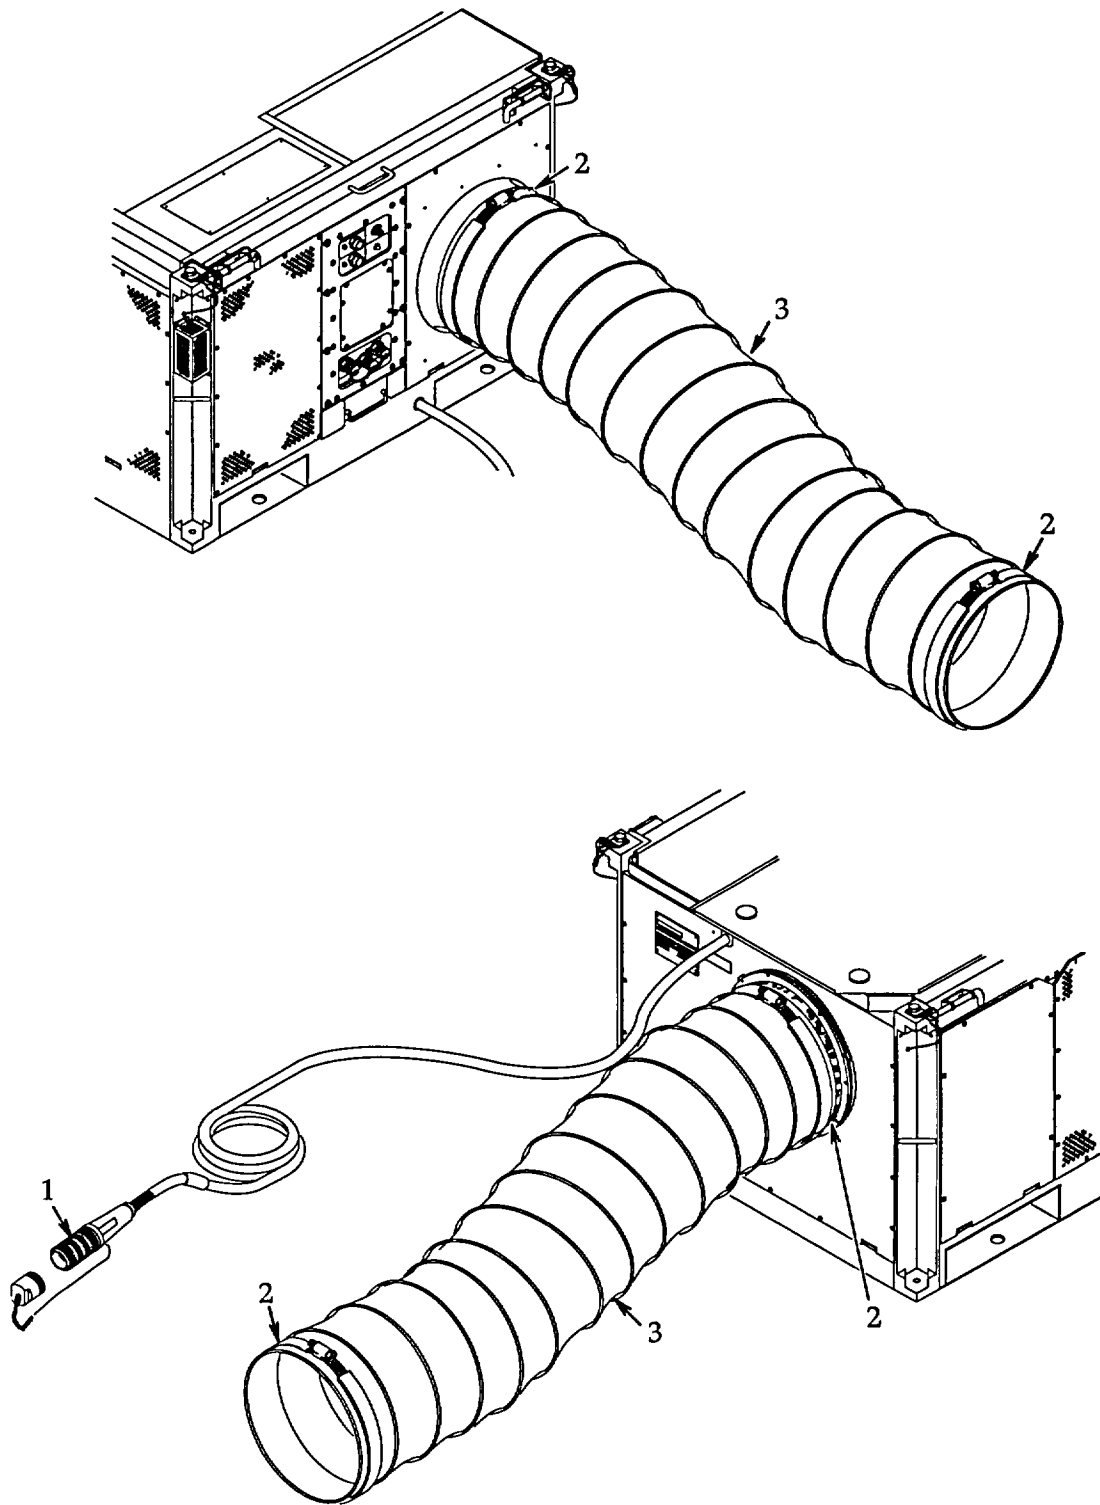

Figure 4-56. Ducts and Input Power Connection.
4.57 **DISCONNECT INPUT POWER AND DUCTS.** See figure 4-56.